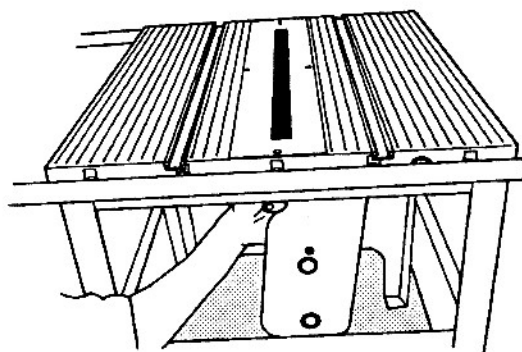

Fig. A-9
13. Repeat Steps 5 -12 to install the fence tube on the outfeed side of the table. The middle nut can be a little difficult to install if the carriage is not set to 0°, as seen in Fig. A-9.